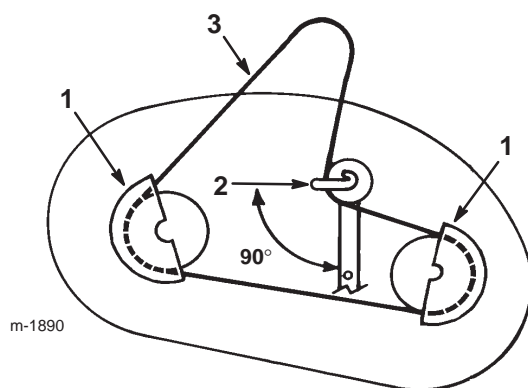

Figure 46
2. Remove the pulley cover mounting screws and pulley covers from both blade pulleys (Fig. 46).
3. Loosen, but do not remove, the bolt and nut that secures the idler pulley and the belt guide (Fig. 46).
2. Position the idler pulley belt guide so that it points toward the left, 90° to the idler arm (Fig. 46).
4. Install the left and right pulley covers with the mounting screws (Fig. 46).